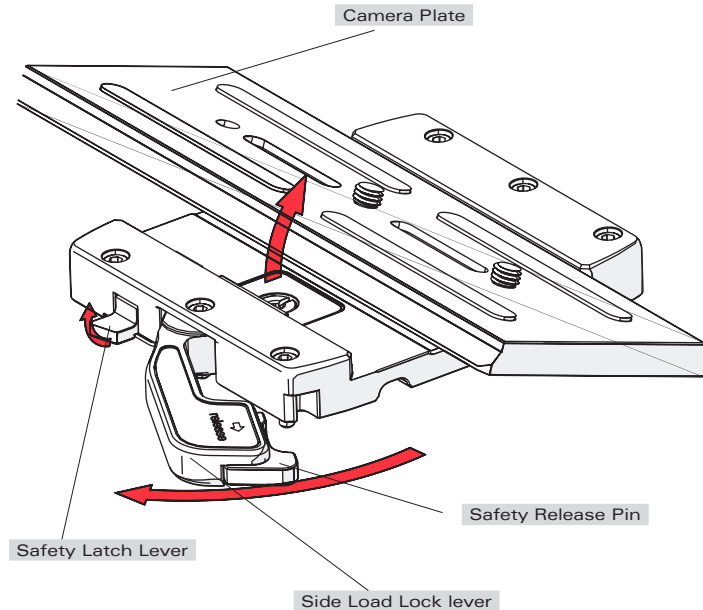

Fig. 6
- 3.1 Remove the CAMERA PLATE by pressing and holding the SAFETY RELEASE PIN then pulling the SIDE LOAD LOCK LEVER outwards. Lift the SAFETY LATCH LEVER and remove the CAMERA PLATE from the BASE PLATE (Fig. 6).